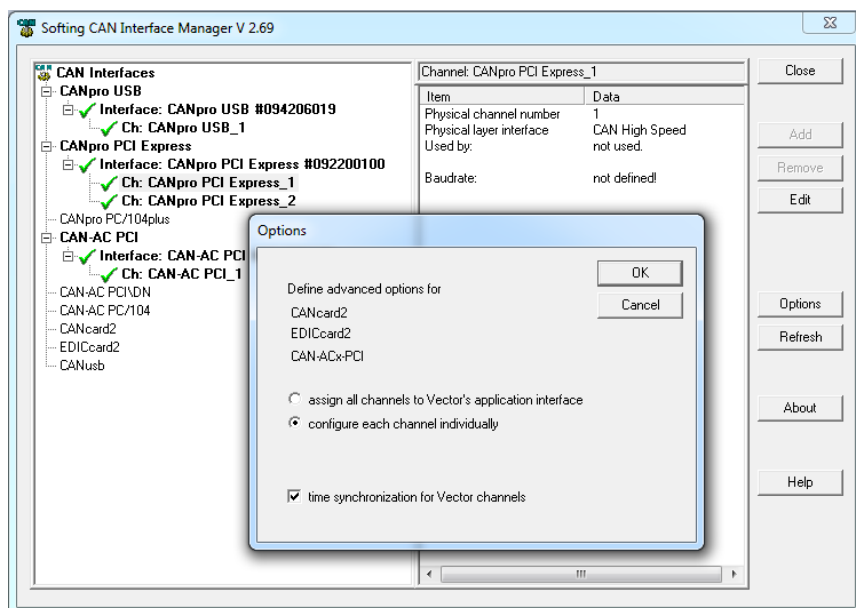

Figure 10
- Options Opens a dialog for global options configuration (see figure 10)
This options button is used to select global options for all CAN interfaces in the hardware tree – especially for use with software from Vector Informatik (like CANalyzer, CANoe, ...). If the “Options” button is pushed a new dialog opens (see Figure 10).